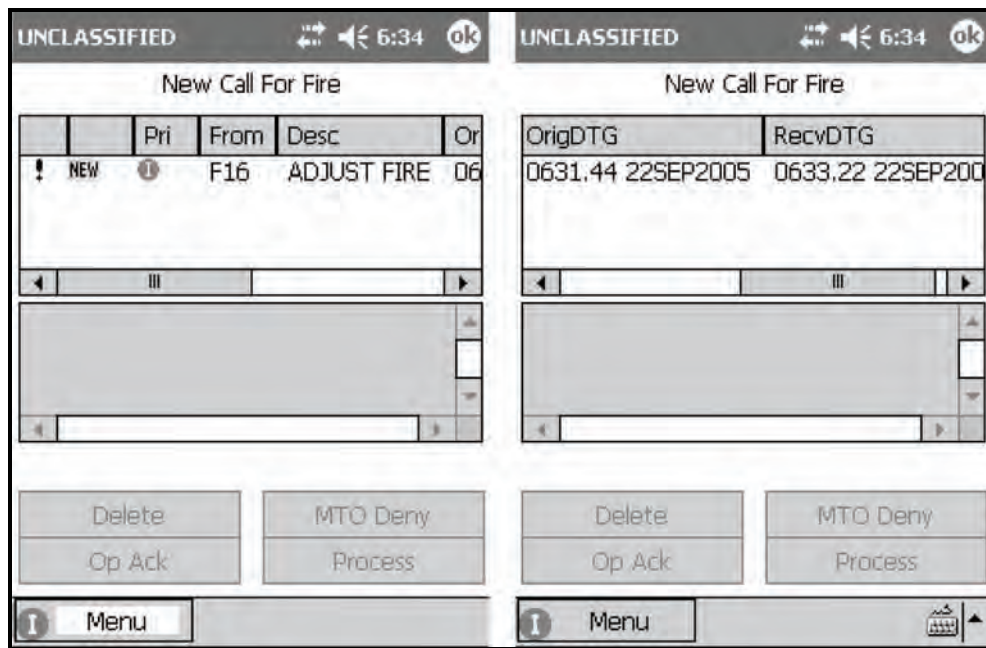

Figure 18-23. Digital Fire Mission: New Call For Fire screen.
- (3) The New Call For Fire screen (Figure 18-23) displays. The New Call For Fire screen is comprised of four control buttons (Table 18-8), the Message window and its seven fields (Table 18-9), and the Message Log window.
NOTE: An exclamation point displays next to the mission (Figure 18-23) until it is acknowledged by selecting OpAck. This action also disables the audio alarm if the alarm is set to ON.
NOTE: The **NEW** icon displays to the left of the message until it has been processed (Figure 18-23).
NOTE: The Mission Messages screen will display the  and  icons in the same manner as the New Call For Fire screen (Figure 18-23). The two screens are essentially the same, except that the MTO Deny button of the New Call For Fire screen has been replaced with the <Target> command button to return to the <Target> screen.